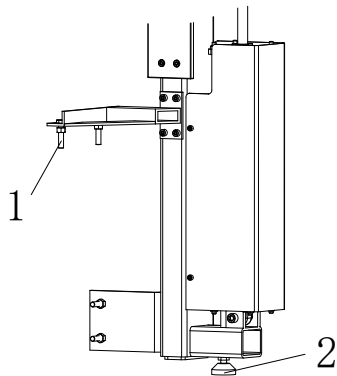

Fig 10
- 2) Fix the column on the body with four screw1 and adjust the support2 to a suitable location; (Fig 10)